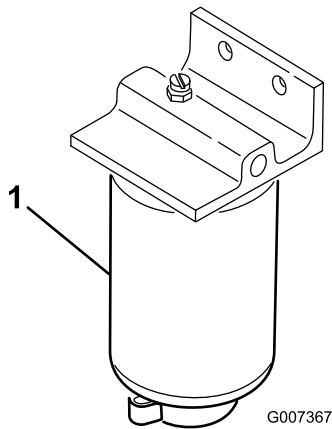

Figure 34
1. Place a clean container under the fuel filter (Figure 34).